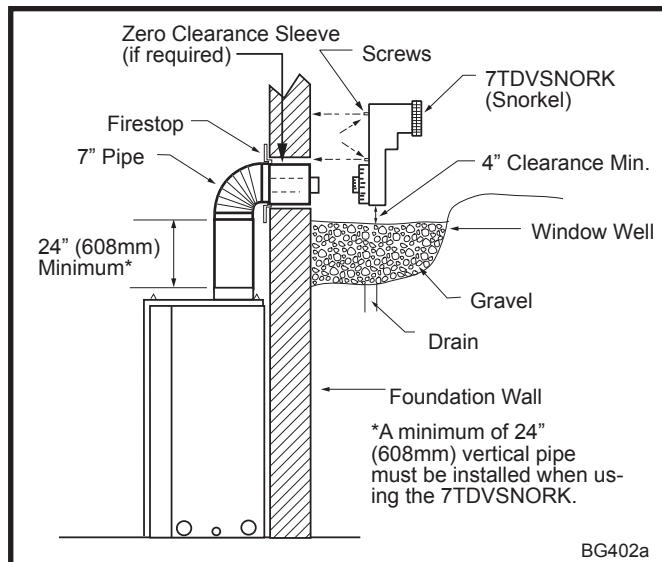

Fig. 37 Below grade installation.
2. Remove soil to a depth of approximately 16" (406 mm) below base of snorkel. Install drain pipe. Install window well (not supplied). Refill hole with 12" (305 mm) of coarse gravel leaving a clearance of approximately 4" (102 mm) below snorkel. (Fig. 37)
7. Level the soil so as to maintain a 4" (102 mm) clearance below snorkel. (Fig. 37)